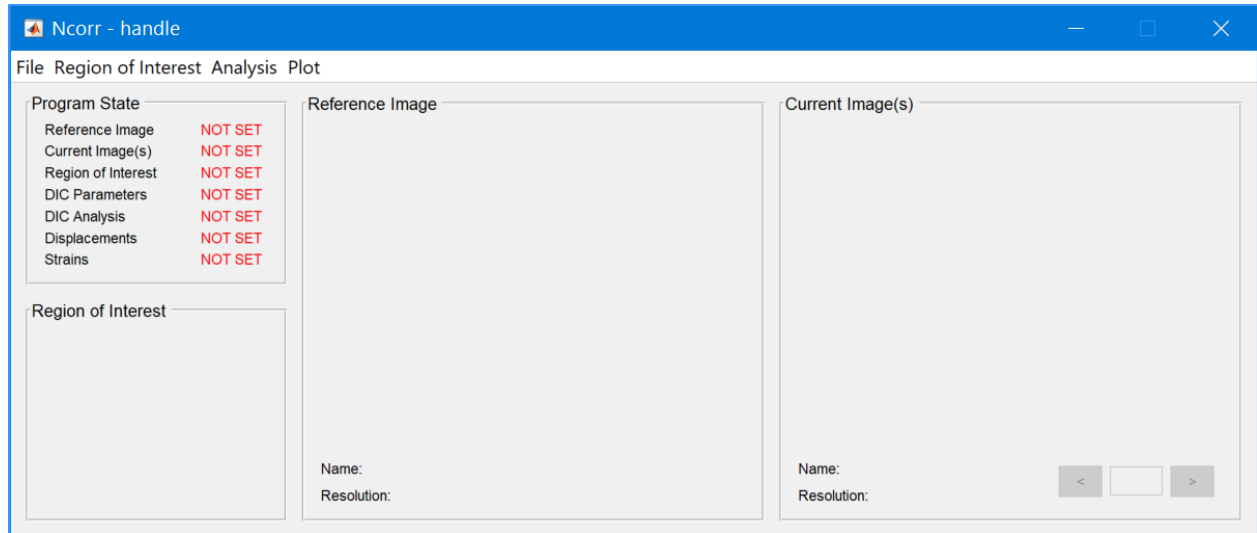

Figure 2. Ncorr MATLAB Graphic User Interface (GUI).
If all the files compiled properly, a Graphic User Interface (GUI) for Ncorr should appear, as shown in Figure 2. If this is the case, Ncorr has most likely installed correctly. The next time you open MATLAB, you will not have to repeat the installation process, as long as you do not delete the compiled MEX files that were saved in the Ncorr folder. If this is the case, Ncorr has most likely installed correctly. The next time you open MATLAB, you will not have to repeat the installation process, as long as you do not delete the compiled MEX files that were saved in the Ncorr folder.
- Figure 2 plotting the same as 1, but the images from the two views are plotted on the left and right subplots separately.